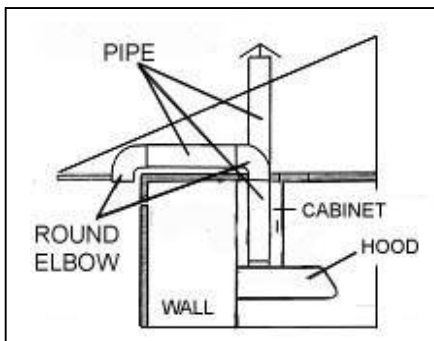

Figure 1
- Decide the location of the venting pipe from the hood to the outside. Refer to Figure 1.